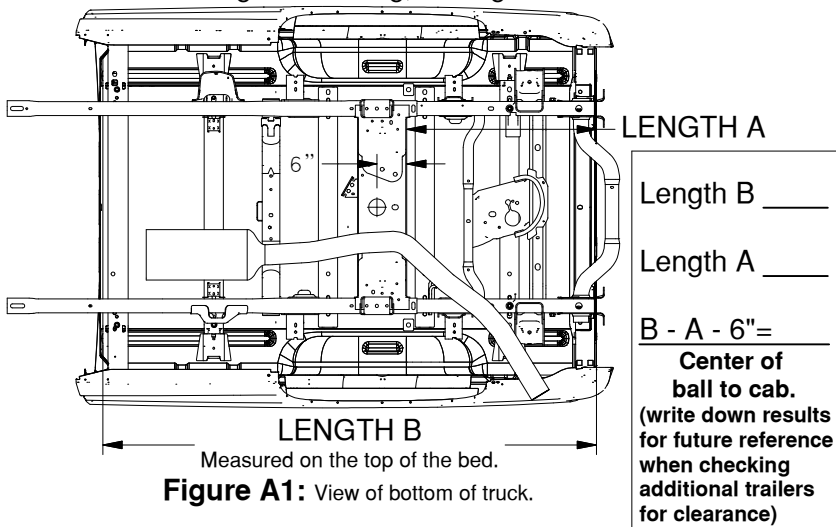
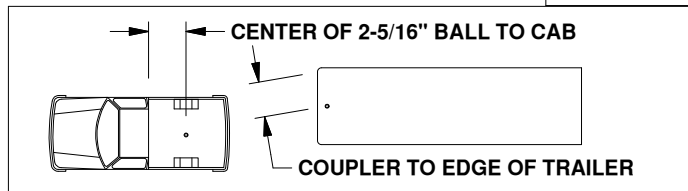

Figure A1: View of bottom of truck.
Figure A2: Truck and trailer diagram
- Determine cab clearance:** Under the truck bed, measure from the rear most edge of the C-channel frame crossmember (over the axle) to the end of the bed, see figure A1, Length A. Next, inside the bed, measure the length of the bed from the rear edge to the front, see figure A1, Length B. Subtract the crossmember measurement (length A) from the bed measurement (Length B). Then subtract an additional 6 inches. This will give you the amount of clearance you have between the 2-5/16" ball location and the cab. Measure the distance from the center of the coupler to the farthest forward corner point of the trailer. Compare this distance to the measurement from the center of the ball to the cab. These measurements will allow you to see how much clearance you will have between the cab and the trailer while towing and turning, see figure A2.